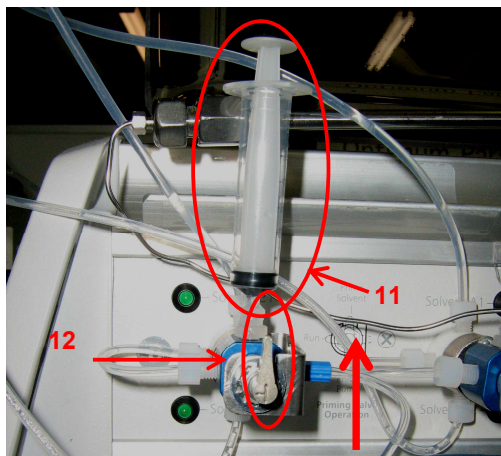

Figure 14: Purging the B valve
1. Attach a syringe (**11**) to the top of the SUM selection valve B *Figure 14*
2. Turn the valve selection switch until it points straight up (**12**) *Figure 14*, and pull back the plunger in the syringe to fill it with mobile phase.